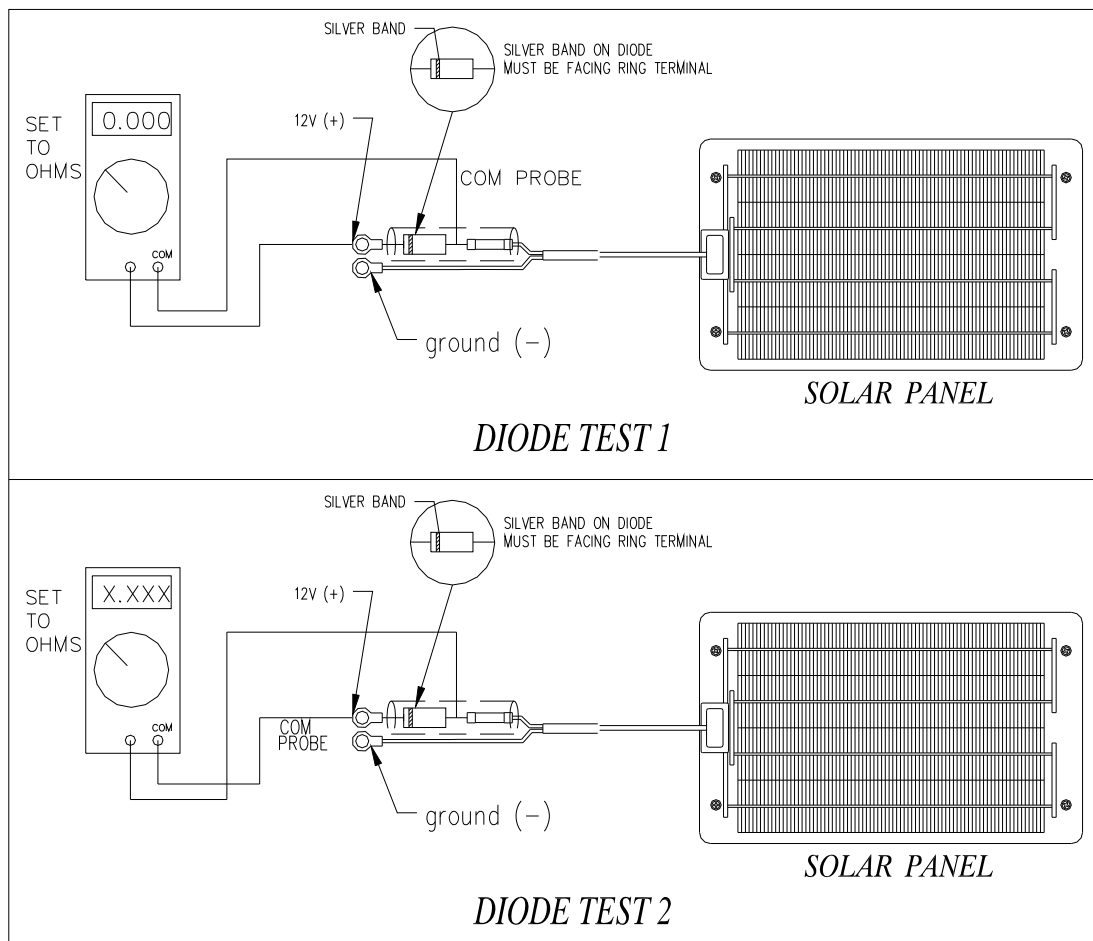

Figure 2
2. Refer to figure 2, Diode test #1. Using a multimeter, set the meter to read 'Ohms'. The 'COM' probe must be placed on the diode as shown in Diode Test #1. Check ohms resistance across the blocking diode. A zero or low ohms reading should be present across the diode. If not, reading a high resistance, the diode is bad or diode is installed backwards.
3. Refer to figure 2, Diode test #2. This test is similar to step #2 but the meter probes are reversed. The 'COM' probe must be placed on the diode as shown in Diode Test #2. Check ohms resistance across the blocking diode. A high resistance ohms reading should be present across the diode. If not, reading a zero or low, the diode is backwards.